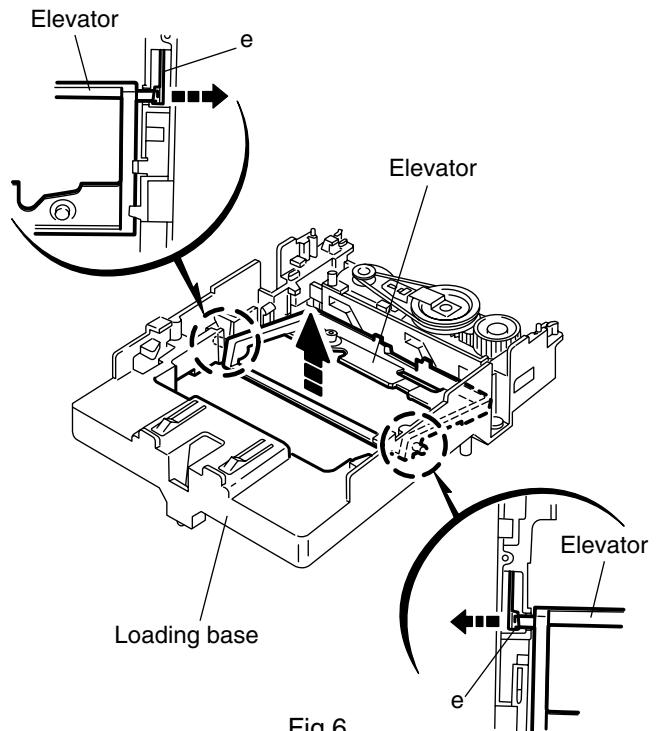

Fig.6
■ Removing the rear panel (see Fig.6)
■ Removing the elevator (See Fig.6 and 7)